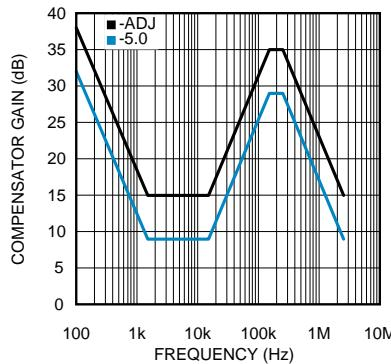

Figure 14. Compensator Gain
The complete transfer function for the regulator loop is found by combining the compensation and power stage transfer functions. The LM22677 has internal type III loop compensation, as detailed in **Figure 14**. This is the approximate "straight line" function from the FB pin to the input of the PWM modulator. The power stage transfer function consists of a dc gain and a second order pole created by the inductor and output capacitor(s). Due to the input voltage feedforward employed in the LM22677, the power stage dc gain is fixed at 20 dB. The second order pole is characterized by its resonant frequency and its quality factor (Q). For a first pass design, the product of inductance and output capacitance should conform to Equation 3.